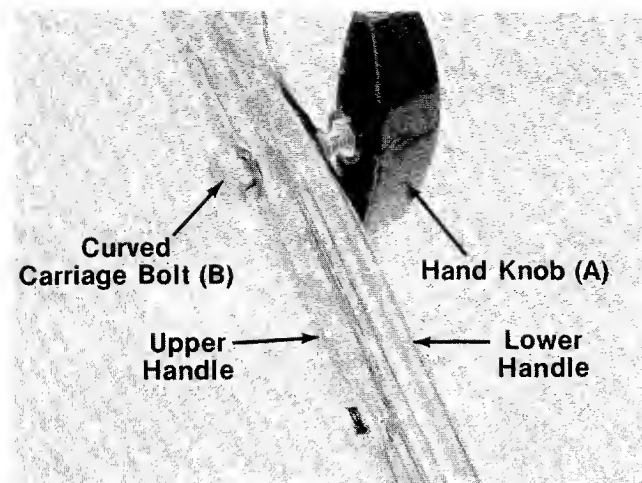

FIGURE 4.
← Secure with two curved carriage bolts (B) and handle knobs (A) as shown in figure 4. The knobs can be either to the inside or the outside of the handle.